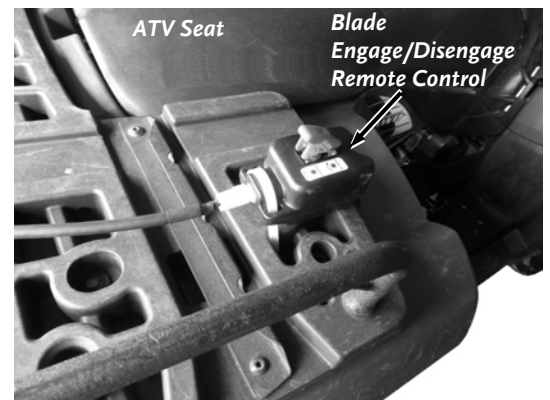

Figure 11a: ATV Mounting
1. Position the Blade Engage/Disengage Remote Control on your Tow Vehicle within reach of the seated Tow Vehicle driver (**Figure 11a and 11b**).